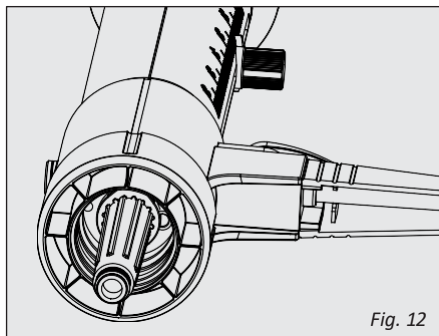

Fig. 12
2. Use the service tool to unscrew the filling valve and also take out the ball with care. (Fig. 12)